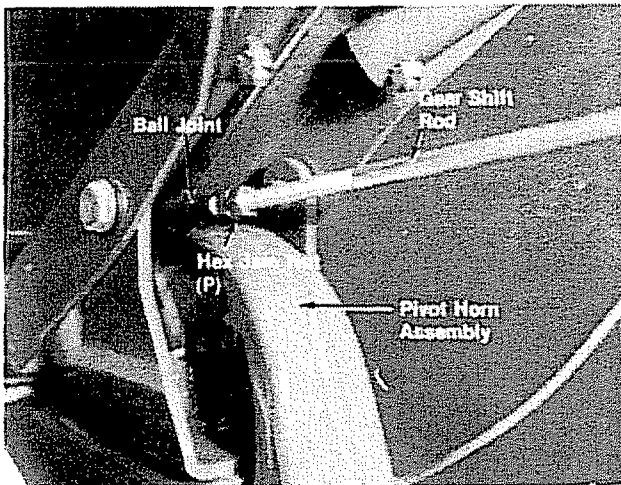

FIGURE 9.
H. Thread hex jam nut (P) on one end of gear shift rod, then thread gear shift rod into ball joint on the top of pivot horn assembly, 10 to 12 complete turns, approximately 1/2 inch. See figure 9.